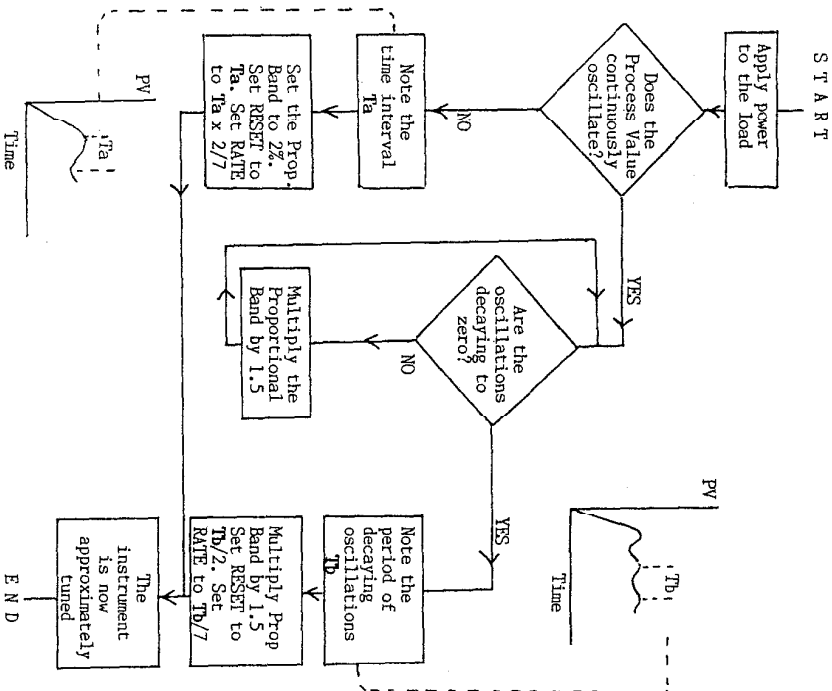

FIGURE 4-2 TUNING HEAT OUTPUT
- 3) Follow the instructions in Fig. 4-2. At each stage, allow sufficient time before moving on to the next stage.